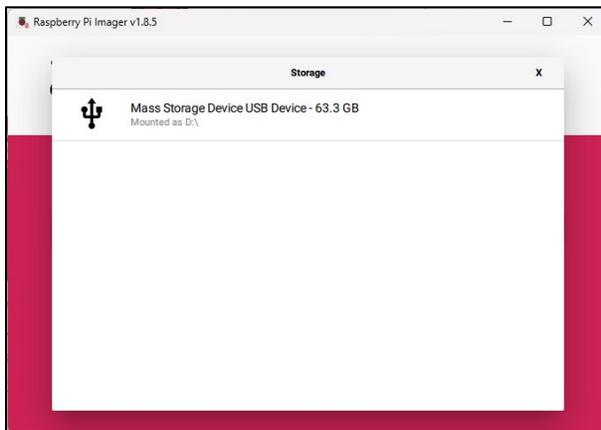

Figure 81 Selecting the MicroSD Card
5. Under **Storage**, choose the USB reader attached to the laptop, as shown in **Figure 81**.